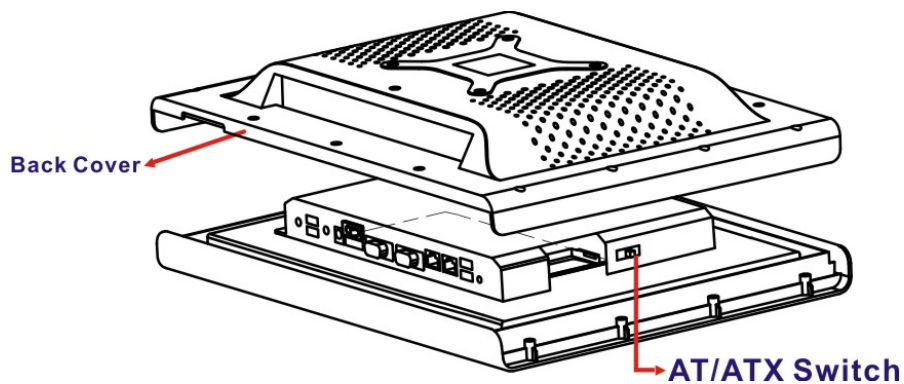

Figure 3-9: AT/ATX Switch Location
AT and ATX power modes can both be used on the AFOLUX LX series. The selection is made through an AT/ATX switch on the aluminum chassis inside the plastic back cover (**Figure 3-9**). To select AT mode or ATX mode, follow the steps below.
Step 2: Locate the AT/ATX switch on the aluminum chassis (**Figure 3-9**).